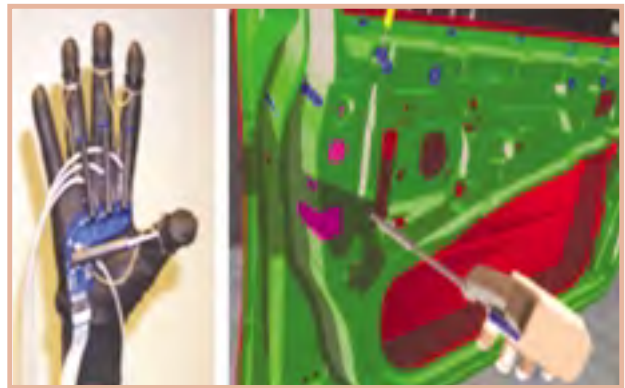

Fig 1 : High Fidelity Graphics
**Virtual Reality Modeling Language (VRML).** It is a language for description of 3D scenes with multimedia content. Virtual reality based maintenance simulator provides the user with a 'virtual environment' which is driven by a faithful model of the equipment's behaviour. The trainee is presented a view on the screen with high fidelity graphics representing all relevant views of the equipment to be operated as shown in fig 1. These views can range from front panels of equipment, cables, printed circuit boards with their test points, and even test sets. The trainee is then able to interact with these items in the same way as if standing in front of the original equipment. Faults may be readily injected and the resulting effects propagate through the equipment